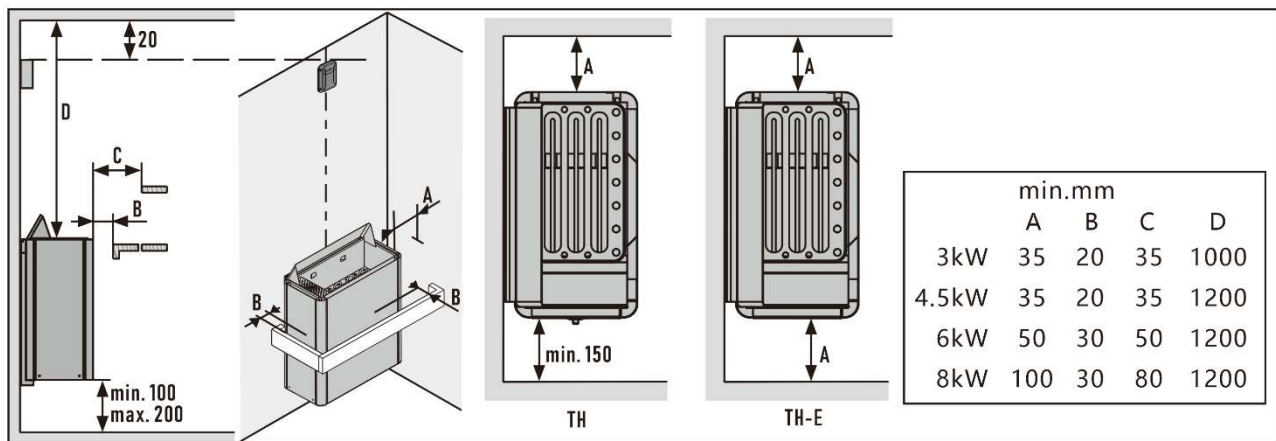

Figure 6. Minimum wall mount safety distances (in millimeters)
- When positioning the sauna heater, are the minimum distance requirements shown in Figure 6 and specified in Table 2 being met?
The minimum safe distance and temperature sensor location for various heater installations (for models with external controllers) are shown in Figure 6. and 7.
- Install the temperature sensor on the sauna wall as shown in Figure 6 and 7.